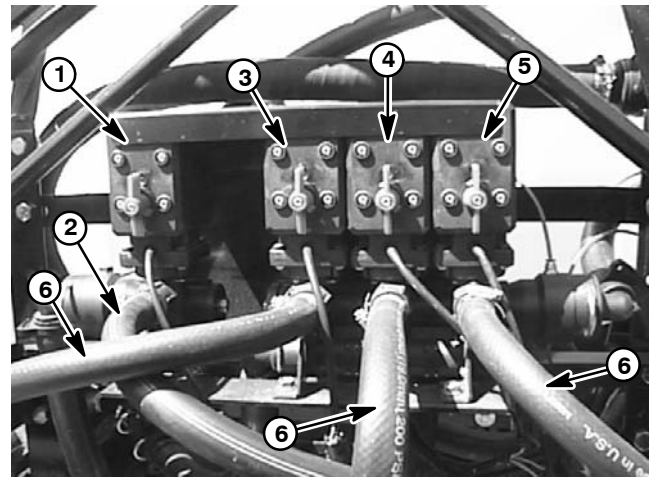
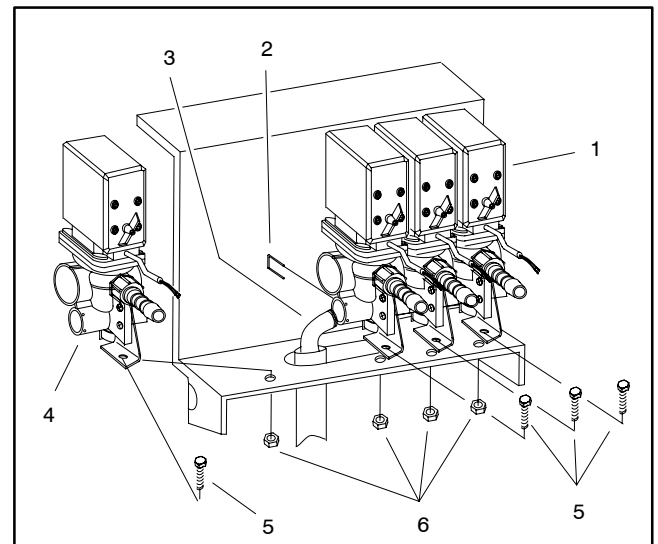

Figure 20
Figure 21
2. Remove two (2) flange head screws and flange nuts that secure support bracket (item 15) to mount bracket (item 26). Position bracket away from spray control assembly.
3. Label hoses for proper installation after repairs are completed (Fig. 20). Loosen hose clamps and disconnect hoses from spray control assembly as needed.
- C. Remove three (3) flange head screws and three (3) locknuts that secure boom valve motors to mount bracket (Fig. 21). Remove boom valve motor assembly from machine.
- B. Remove flange head screw and locknut that secure agitation valve motor to mount bracket (Fig. 21). Remove agitation valve motor from machine.
2. Position removed motor assembly to mount bracket and secure with fasteners removed during disassembly (Fig. 21).
3. Secure support bracket to mount bracket with two (2) flange head screws and flange nuts.
4. Install hoses to correct locations on spray control assembly (Fig. 20). Secure hoses with hose clamps.